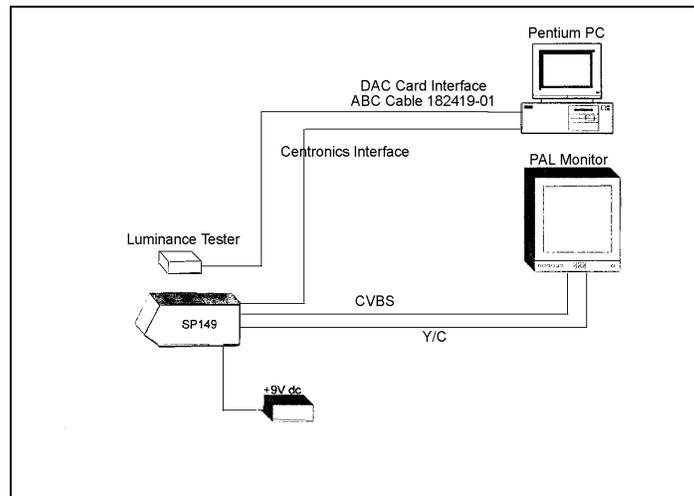

Figure 2 Luminance test setup
3. Connect the National Instruments ABC cable from the Luminance Test Head to the DAC card connector on the PC. (See Figure 2)